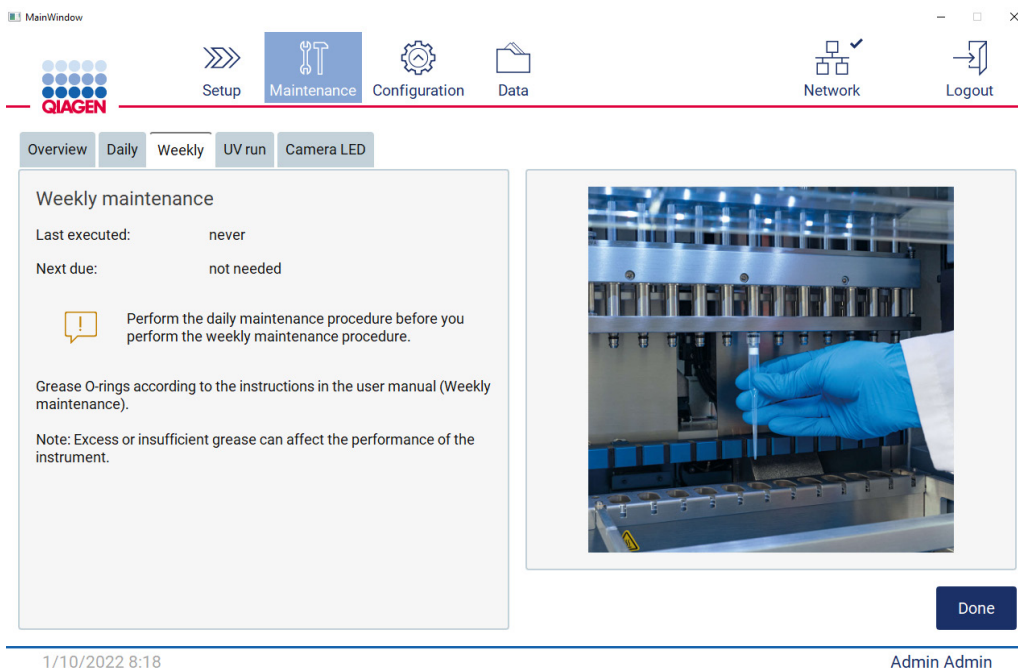

Figure 150. Weekly maintenance screen.
5. Using a fresh glove, apply a small amount of silicon grease onto the surface of the O-rings (shown in Figure 150), by just using a fingertip moistened with grease. Care should be taken not to allow grease to be applied to, or cover the opening in the nub of the pipettor.